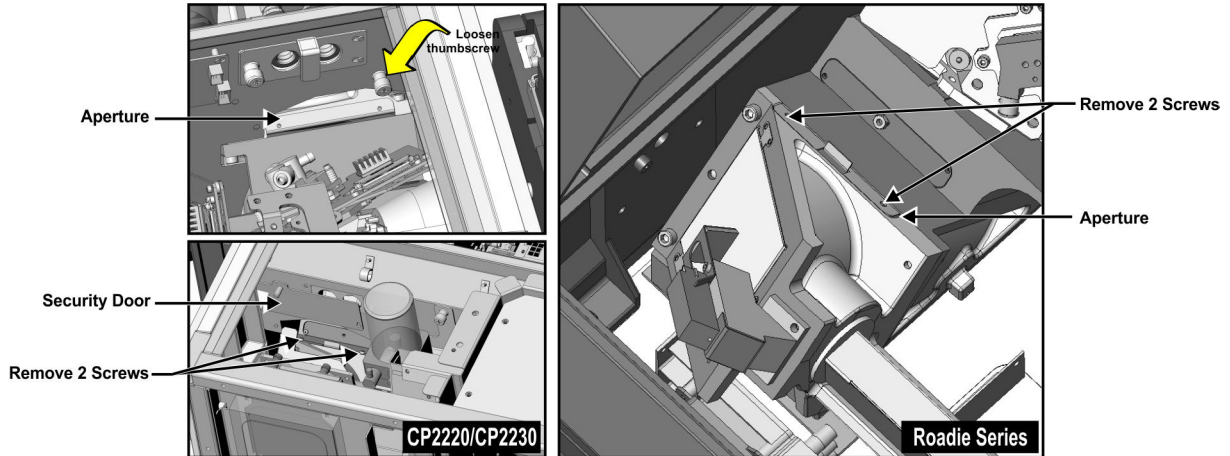

Figure 3 Remove Aperture
4. **CP2220 and CP2230 ONLY:** Manually loosen the thumbscrew shown in **Figure 3, left** in order to remove the security door.